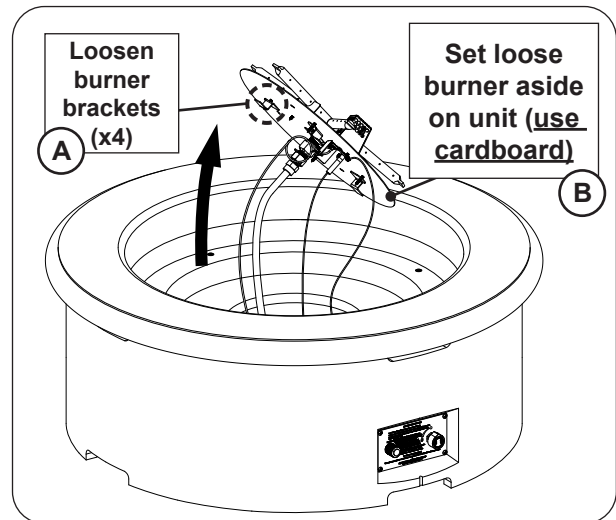

Fig. 32-2 Gain access to interior of unit
2. Use a  $\frac{5}{16}$ " nut driver to loosen the 4 screws found on the burner assembly (see Fig. 32-2, A).
3. Carefully lift out the burner just enough to set it off to the side (see Fig. 32-2, B).